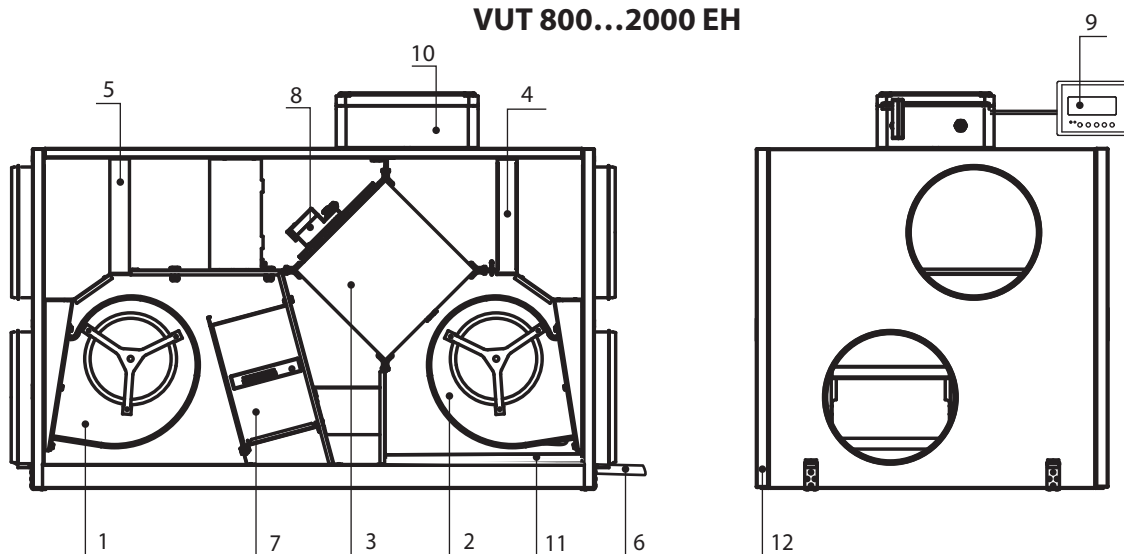

Fig. 4. Unit design
The air supply and exhaust units are equipped with quick-release access panels with special gaskets for easy repair and maintenance. The terminal box (see Fig. 4: item 13 for VUT 350..600 EH) or the control unit (see Fig. 4: item 10 for VUT 800..2000 EH) contains the terminal block. The power and ground cables are routed to the terminal block through sealed lead-ins.